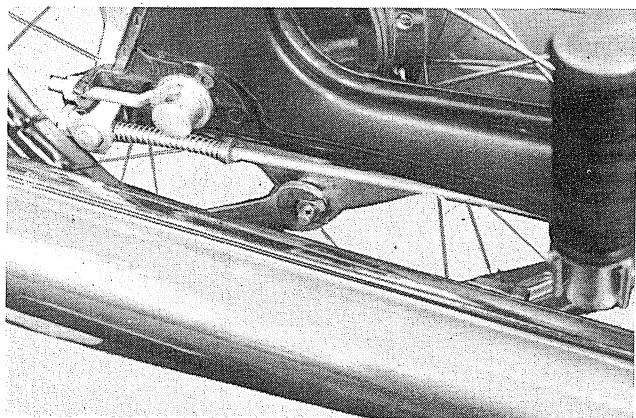

Fig. 4-2-2
- 1) Remove the anchor bar and brake rod attached to the rear brake shoe plate. (Figs. 4-2-2, 3 and 4)